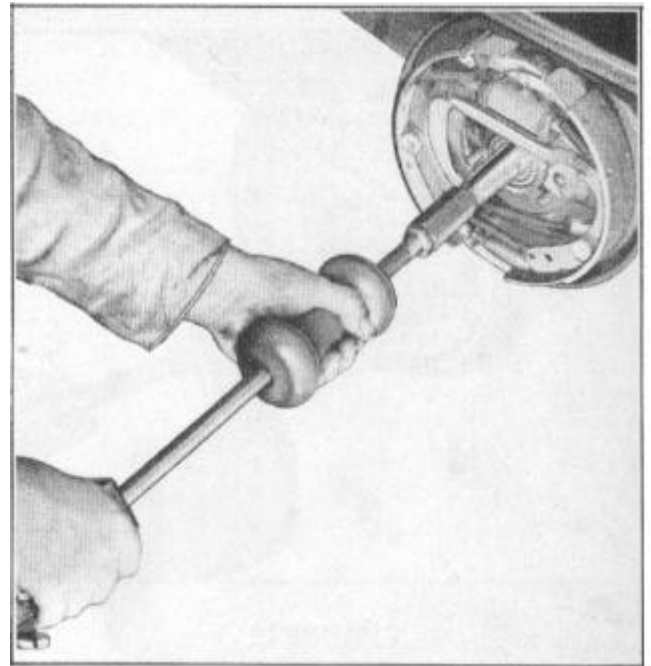

FIGURE 9
5. Remove axle shaft and wheel bearing, using axle shaft puller J-352. See Figure 9